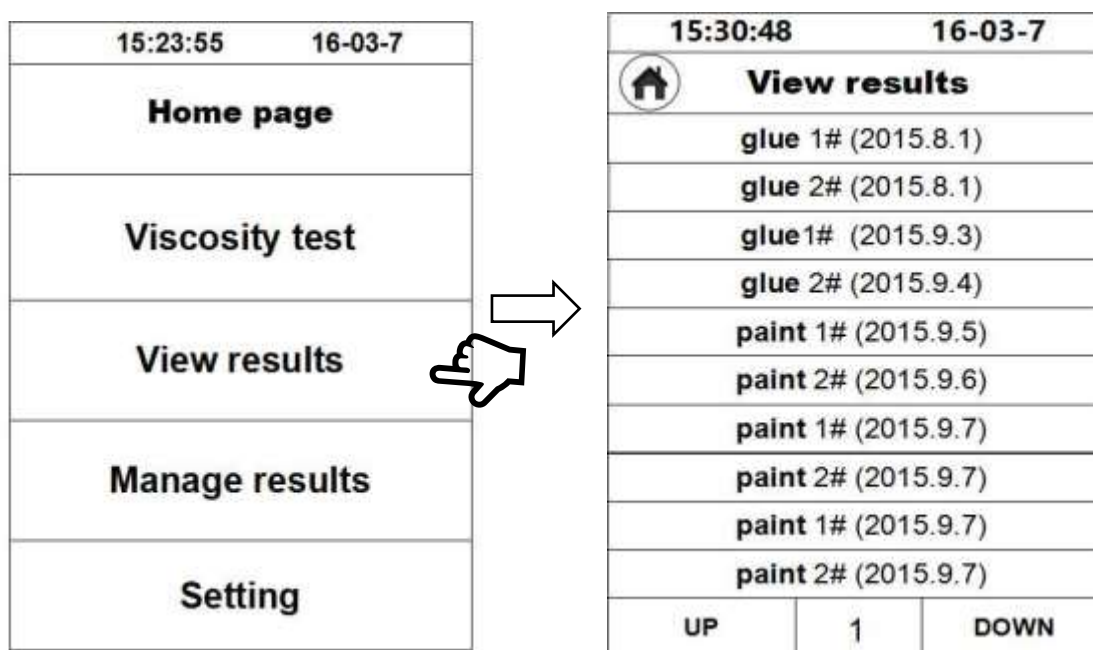

Fig. 26
2. View and print the test data: click “View results” to display the saved test data on the screen (Fig. 26), and then select to view or print the record required.